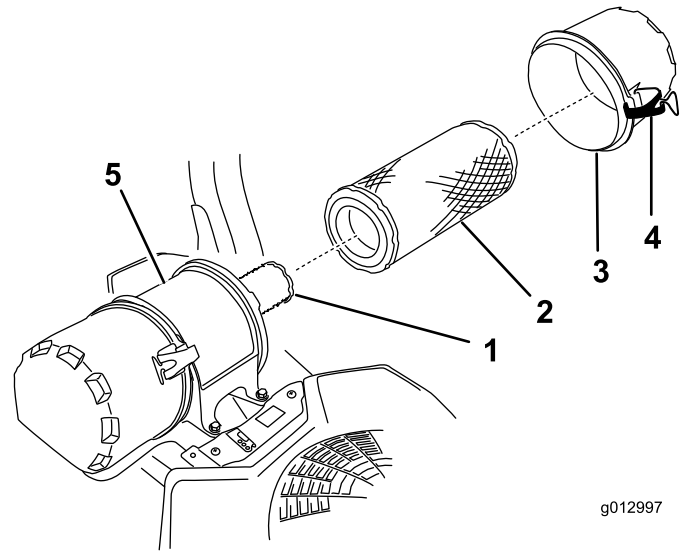

Figure 47
- Release the latches on the air cleaner and pull the air-cleaner cover off the air-cleaner body (Figure 47).
- Gently slide the primary filter out of the air-cleaner body (Figure 47).
- If the inner filter is being replaced, carefully slide it into the filter body (Figure 47).
- Carefully slide the primary filter over the inner filter (Figure 47).
4. Install the air-cleaner cover and secure the latches (Figure 47).